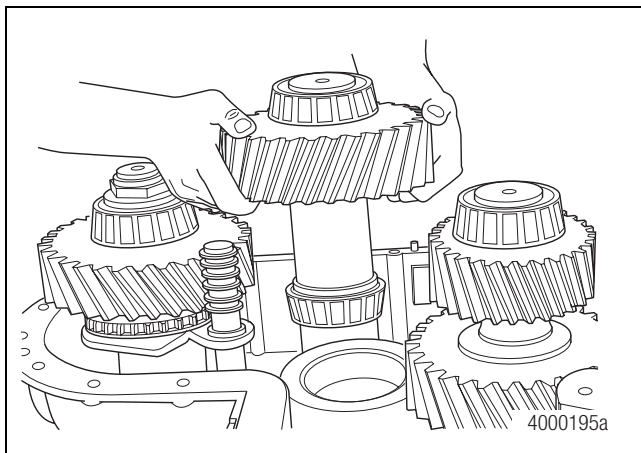

Figure 4.8
9. Remove the single-gear idler shaft, or rear output on MTC-4208 and -4210 transfer cases, and the double-gear idler shaft from the case. Remove the front output shaft, clutch collar, shift fork and spring as an assembly. Figure 4.8.